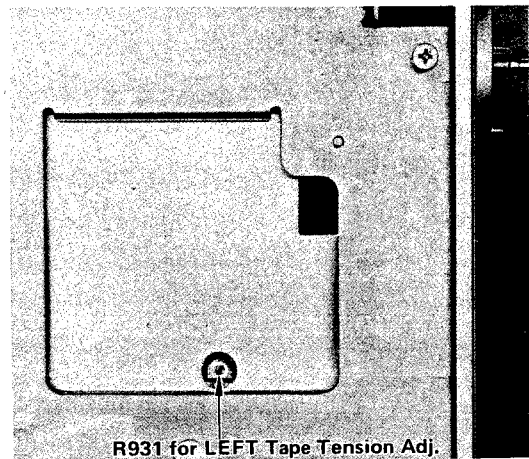

Fig. 7-6 Left Tension Guide (Arm)
5. If adjustment is necessary, adjust R931 on Servo P.C.B. See Fig. 7-6.